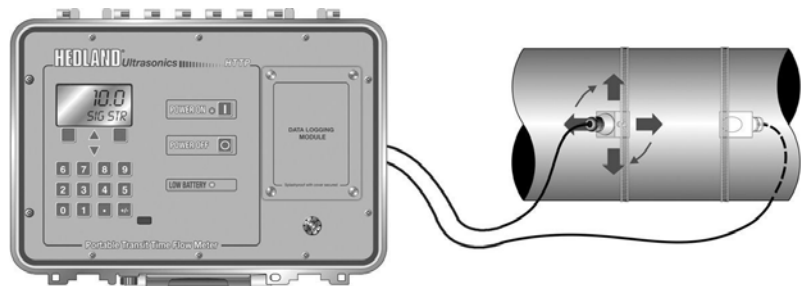

Figure 2.8
7. Place the downstream transducer on the pipe at the calculated transducer spacing. See **Figure 2.8**. Using firm hand pressure, slowly move the transducer both towards and away from the upstream transducer while observing Signal Strength. Clamp the transducer at the position where the highest Signal Strength is observed. Signal Strength of between 5 and 95 percent is acceptable. On certain pipes, a slight twist to the transducer may cause signal strength to rise to acceptable levels.